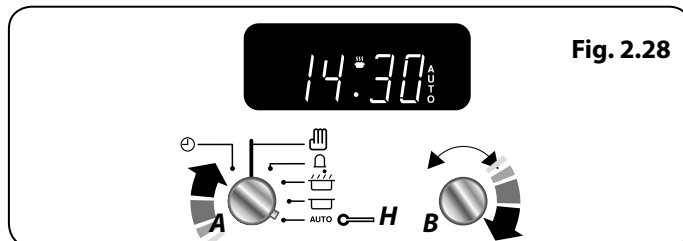

Fig. 2.28
3. Continue to turn the **Adjusting (B)** knob to the amount of time required e.g. 1 minute. The display will show the current time plus the required length of time you have set (**Fig. 2.28**).
4. Turn the **Timer (A)** knob to the **Auto (H)** setting (**Fig. 2.28**). The display will show the current time, the Cooking symbol and the word '**AUTO**' (**Fig. 2.28**).